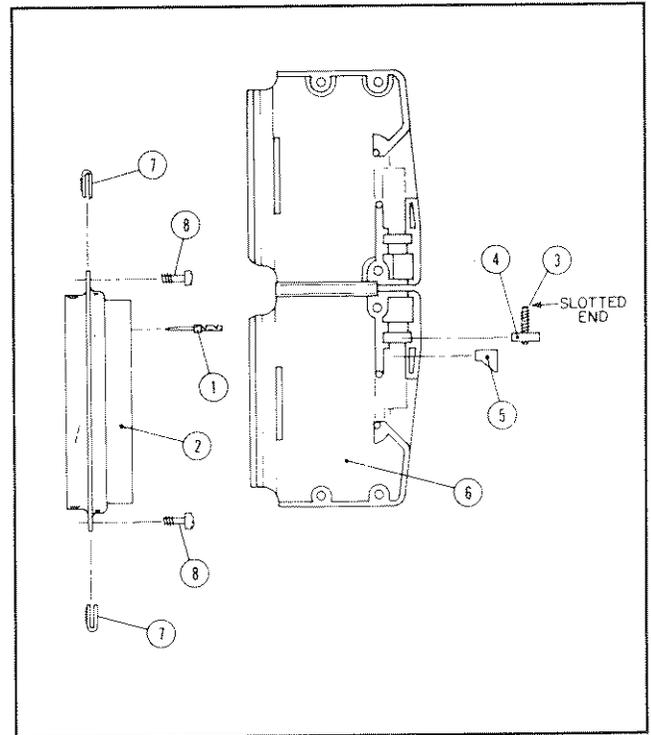

Figure A-1. Mating Connector Assembly
A-17 The following instructions describe assembly of the mating connector provided to interface the user's system with the option connector, J3. Figure A-1 identifies the parts of the mating connector.
- Screw a slotted set-screw (3) partially into a square nut (4) and place in position in connector shield assembly (6).
- Place strain relief (5) in position in connector shield assembly (6), just under set screw (3). Be certain that strain relief is oriented as shown in Figure A-1.
- Place connector pin housing (2) in shield assembly (6) and route cable through cable entrance.
- Fold connector assembly (6) and secure with three screws.
- Strain relief set screw (3) can now be adjusted from top of connector to clamp firmly on cable.
- Clip fasteners (7) onto ends of connector pin housing (2).
- Connector can now be plugged onto option connector J3 and secured with two screws (8) into the threaded stand-offs on either side of J3.